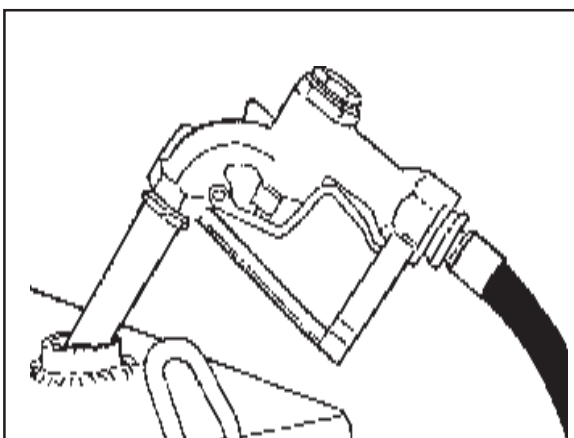

Figure 34
4. When adding Oil in the field keeping it clean is critical, do not use dirty funnels or hoses. Do Not open Hydraulic tank or any containers unless the openings have been cleaned first. The outside of the containers must be clean. If a windy dusty day do not fill and allow dirt to blow into oil. Always add Oil using a pump system with at least a 10 Micron filter system. (See Figure 34)